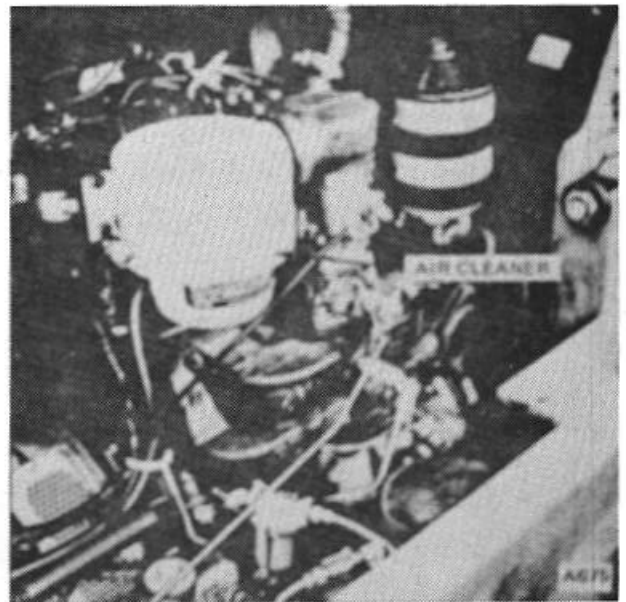

Figure 64.
4. Check air cleaner. (Fig. 64)